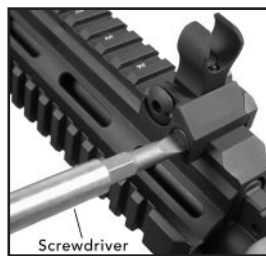

Fig. 10 – Installing front TROY sight    Fig. 11 – Tightening front TROY sight
1. Unscrew clamping assembly and place the sights at the desired location on the Picatinny rail (Fig. 10).